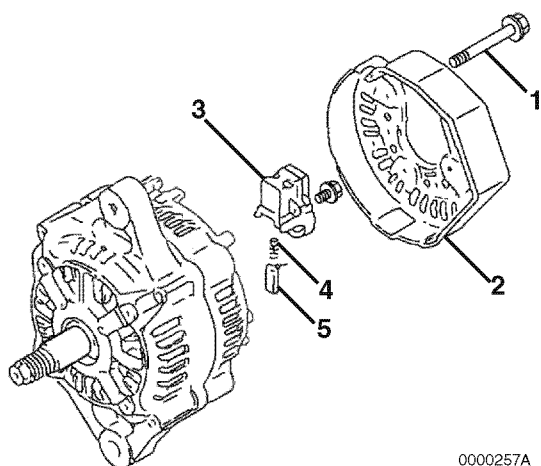

Figure 12-17
8. Reinstall the brush holder (**Figure 12-17, (3)**), springs (**Figure 12-17, (4)**) and brushes (**Figure 12-17, (5)**).
10. Reinstall the rear cover (**Figure 12-17, (2)**) to the rear frame housing with three bolts (**Figure 12-17, (1)**).